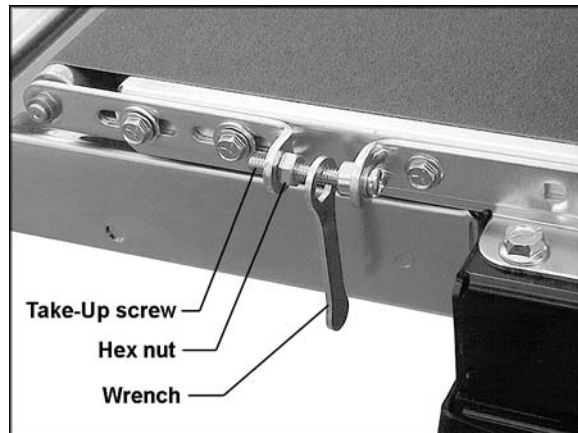

Figure 22
Belt Tension: To adjust the tension of the conveyor belt, first adjust the take-up screw nut (Figure 22) on both sides of the conveyor to obtain approximately equal tension on both sides of the belt when taut.
Belt Tracking: Adjustments to tracking are made while the conveyor belt is running. After the proper belt tension has been achieved, turn on the conveyor unit and set it at the fastest speed setting. Watch for a tendency of the conveyor belt to drift to one side of the conveyor. If there is drifting, tighten the take-up screw nut (Figure 22) on the side toward which the belt is drifting, and loosen the take-up screw nut on the opposite side. NOTE: Adjust the take-up screw nuts only 1/4 turn at a time. Then allow time for the belt to react to the adjustments before proceeding further. Try to avoid over-adjustments.
2. Adjust conveyor take-up screw nuts (Figure 22) to relieve belt tension.